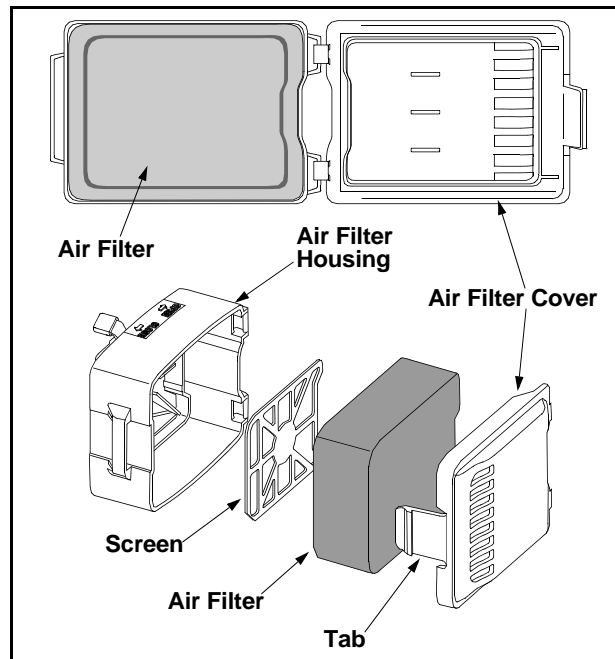

Figure 10
- Open the air filter cover on side of engine by pushing the tab on the left side in and swinging the air filter cover out and off. See Figure 10.